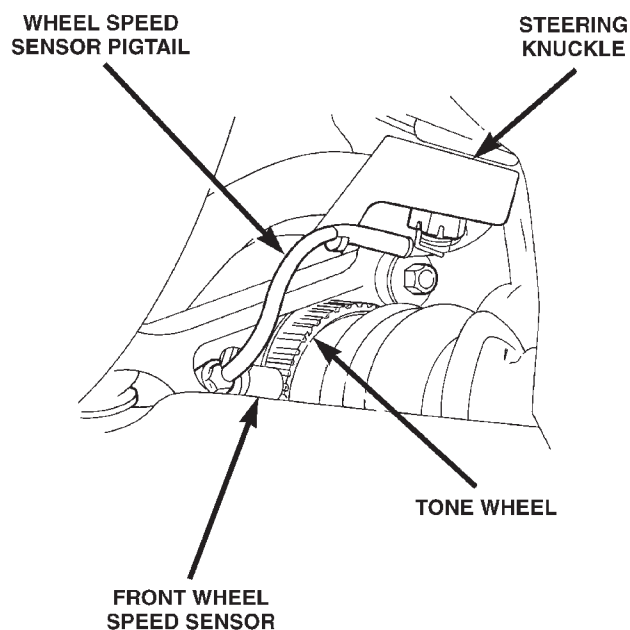

Fig. 8 Front Wheel Speed Sensor
- (1) Raise vehicle and turn wheel outward to access the sensor.
- (2) Disconnect sensor wire connector at harness plug.
- (3) Remove sensor wire from mounting retainers.
- (4) Clean sensor and surrounding area with shop towel before removal.
- (5) Remove bolt attaching sensor to steering knuckle and remove sensor (Fig. 8).